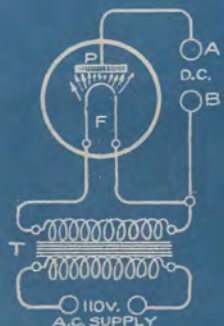

Fig. 5
An electron tube, a common example of which is the Tungar bulb, is very commonly used as a rectifier. In this device a heated filament throws off electrons within an exhausted vessel and current is conveyed only in one direction in the electron stream. In Fig. 5 is a two element rectifying tube similar to a Tungar bulb. The filament (F) is heated to the point where electrons are freely emitted and the electrons form a path from the filament to the plate (P). A transformer (T) connected to the 110 volt A.C. lighting circuit supplies current for heating the filament and the two connections (A) and (B) are the terminals from which the half-wave rectified current is drawn.